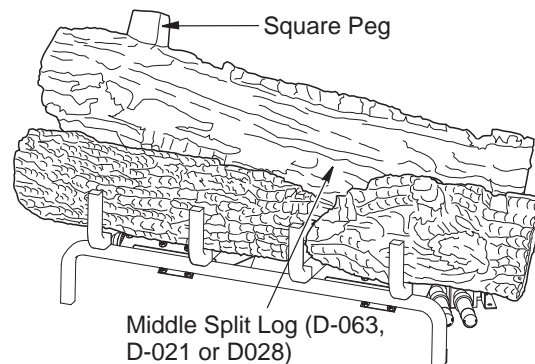

Figure 28 - Installing Middle Split Log (D-021)
5. Find the middle split log (LMF24GTA/B or LMF24MOA/B models: D-063, LMF30GTA/B or LMF30MOA/B models: D-021, LMF36GTA/B or LMF36MOA/B models: D-028). See **Figures 28 and 28A**. The split side of the log faces forward. The log has a notch that fits around the burner